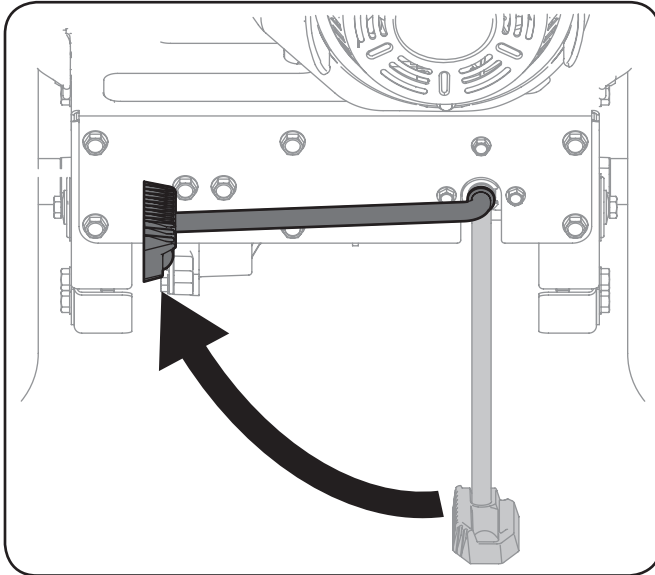

Figure 4-1
1. With the kickstand UP on the FLEX™ Power Base unit, as shown in Figure 4-1, roll it over to the leaf blower attachment.